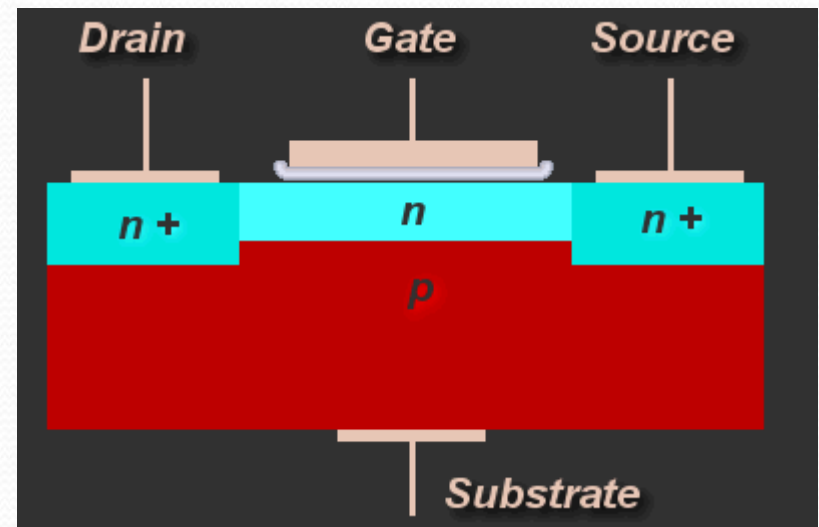

Abb. 16
- Abb. 16: <http://www.radartutorial.eu/21.semiconductors/pic/mosfet2.gif>